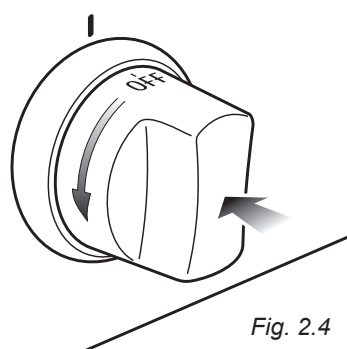

Fig. 2.4
1. Push and turn the knob in an anti-clockwise direction up to the position ★ HI (maximum rate of inner + outer crown); push in and hold the knob until the flame has been lit (fig. 2.4).
2. Push and turn the knob in an anti-clockwise direction up to the position ★ HI (maximum rate of inner + outer crown); push in and hold the knob until the flame has been lit (fig. 2.4).